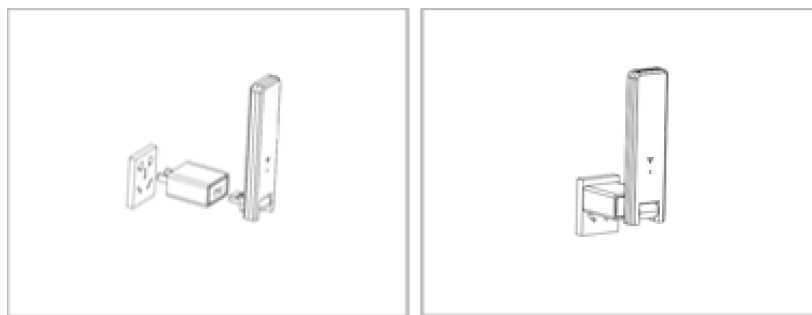

Figure 1
(3) DTU Installation
- a. Connect the DTU to the adapter and plug it into the wall socket. (Figure 1)